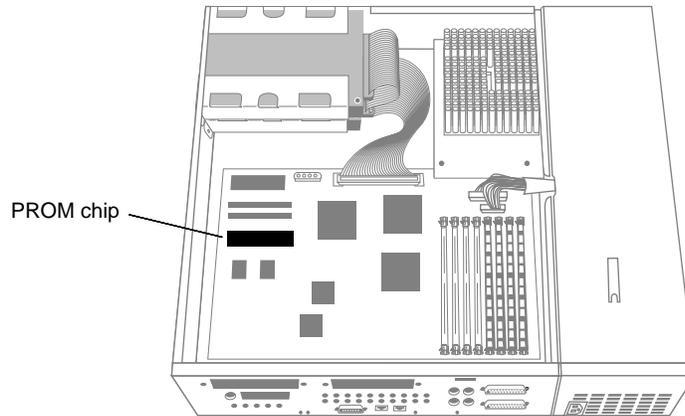

Figure 2-10 Locating the PROM Chip on the System Board
1. Locate the PROM chip on the system board, as shown in Figure 2-10.